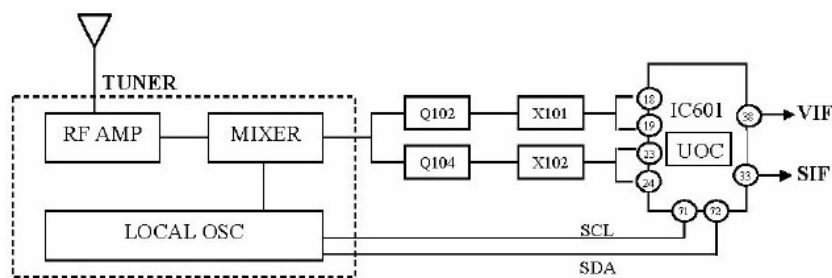

Fig 2.0
1. The purpose of the tuner is to convert the VHF/ UHF TV broadcast signal (RF) into intermediate frequency signal, IF (38.0MHz) [Fig 2.0].
1. UOC output AFT by I²C Bus [Fig 2.0].